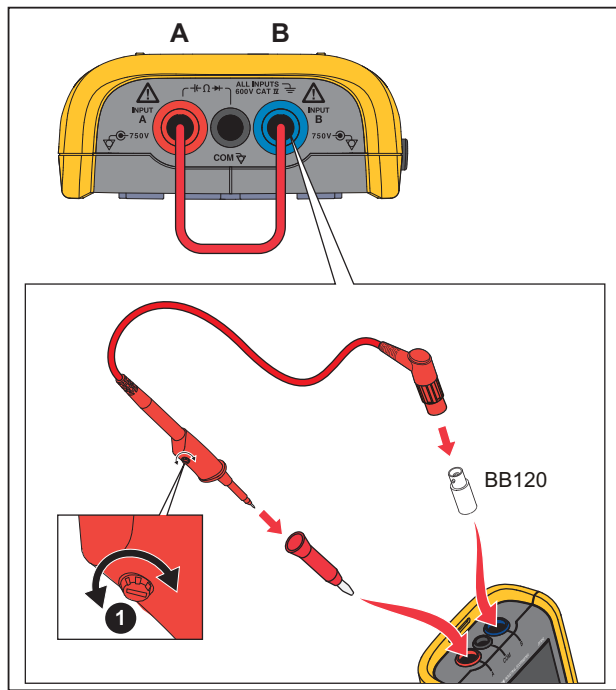

Figure 14. 10:1 Scope Probes
2. Use the red 4-mm banana adapter (delivered with the probe) and the banana-to-BNC adapter (BB120). See Figure 14.